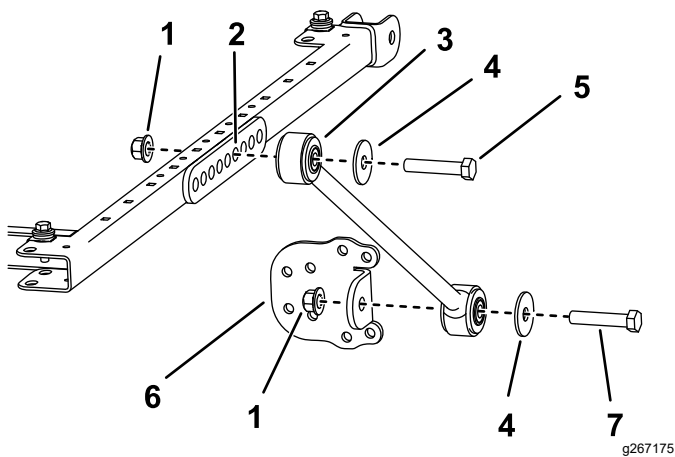

Figure 27
11. On each side of the sunshade frame, loosely mount a brace to the sixth hole of the bracket mount with a bolt (1/2 x 2-3/4 inches), washer (1/2 inch), and flange nut (1/2 inch) as shown in Figure 27.
12. Loosely install a brace bracket to each brace with a bolt (1/2 x 2-1/2 inches), washer (1/2 inch), and flange nut (1/2 inch) as shown in Figure 27.